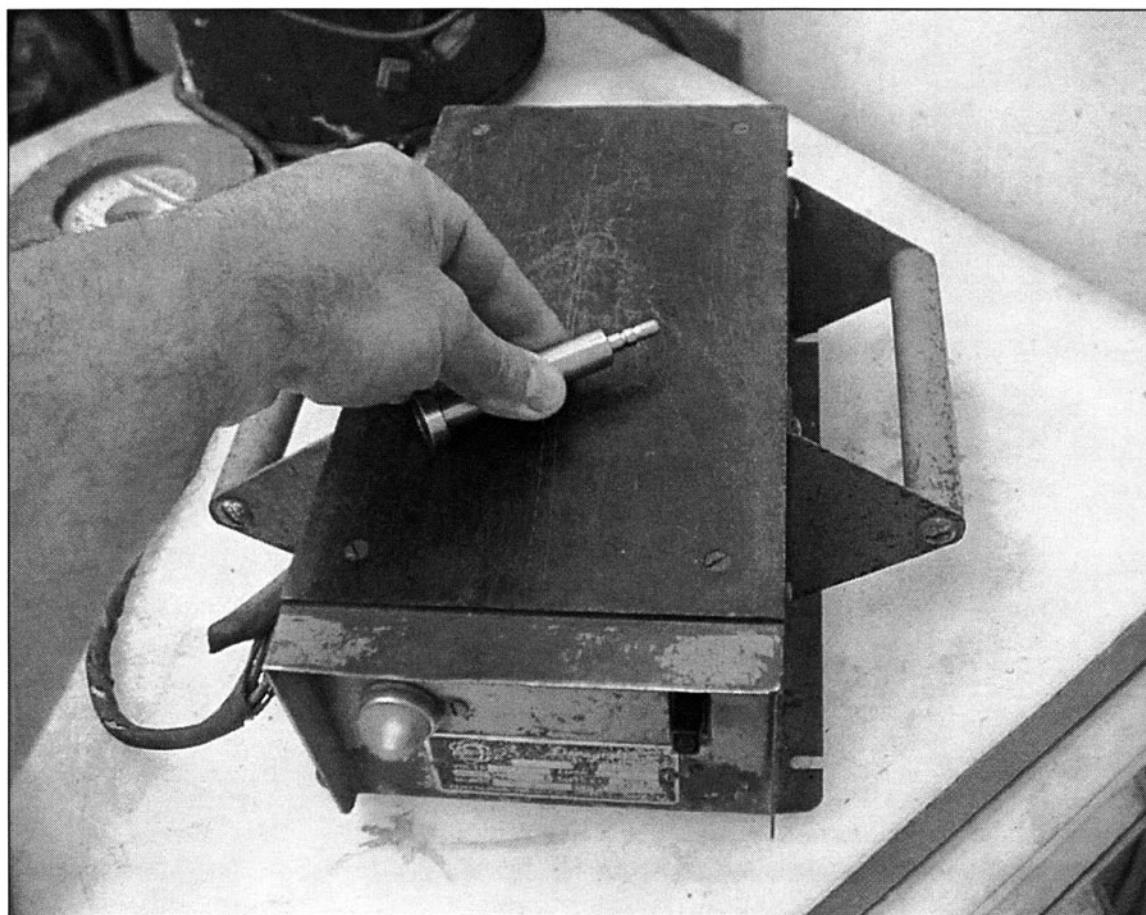

FIGURE 13-5 Thoroughly demagnetizing parts before EDM-ing them reduces the chances of arcing caused by small chips.
12. Thoroughly demagnetize parts that are going to be EDM-ed. (See Fig. 13-5)